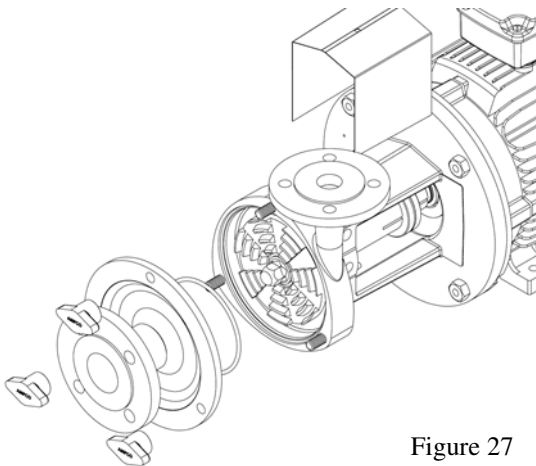

Figure 27
10. Replace cover gasket, cover, wing nuts, and shaft guard, Figure 27. When replacing the cover, depending on the style of connection, the cover may only be installed correctly with one orientation. Note the orientation of flange bolt hole patterns before installing the cover. Make sure the wing nuts are tight and turn the impeller slowly with a 15/16" socket, extension, and ratchet to check if impeller turns freely. If the impeller does not turn freely do not force it to turn and absolutely do not run the pump. Reset the impeller clearance.